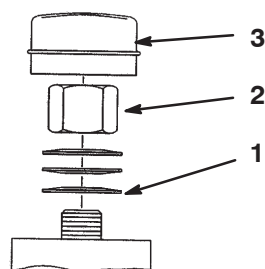

Figure 49
- Remove the dust cap from the caster and tighten the locknut (Fig. 49).
- Tighten the locknut until the spring washers are flat, then back off 1/4 turn to properly set the pre-load on the bearings (Fig. 49).
Important Ensure that the spring washers are installed correctly as shown in Figure 49.